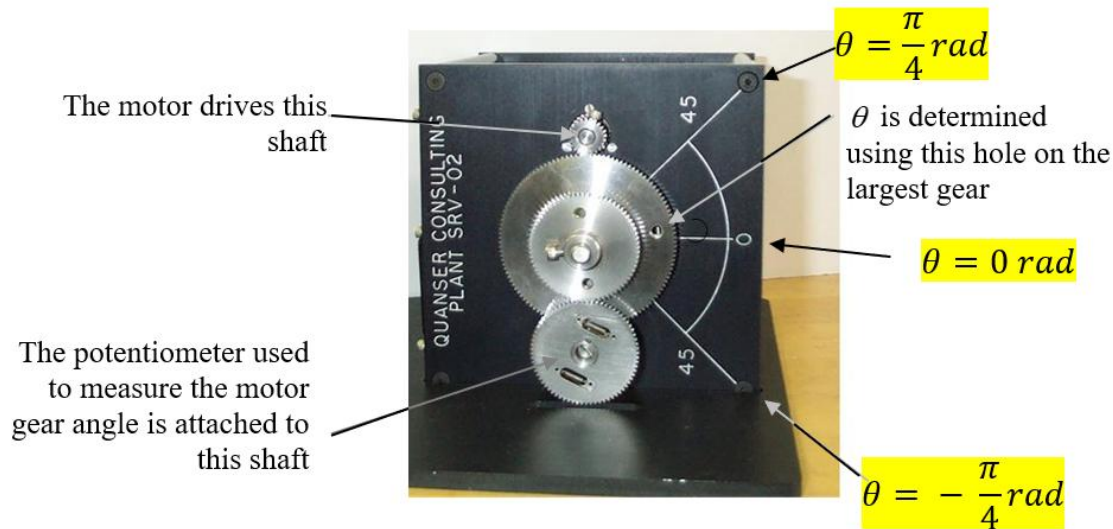
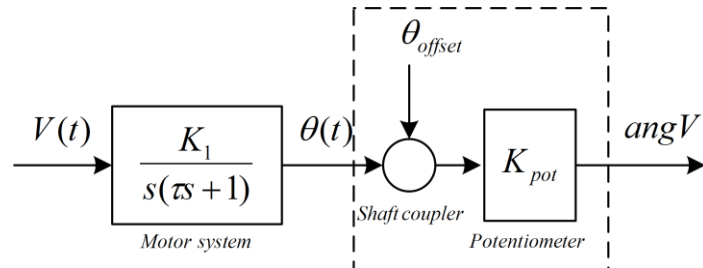

FIGURE 8: The motor system plant for Lab 1
FIGURE 9: Nonlinearity introduced by servo-angle potentiometer
- (b) Check out your experimental station. Figure 8 shows a detail of the motor system plant and how to correctly measure the gear angle θ . Use the sample code provided and exercise the system to cause rotation in both cw and ccw directions. Use the Serial Monitor and CoolTerm app to display the data being sent to the serial port. Save the CoolTerm data to a file. Import the data into MS Excel and plot it. This will prepare you for items (c) and onwards as you progress through the lab activities. Observe the signals being read from the two system sensors. Are the signals “clean” or impacted by electrical noise? How can you apply filtering to the signals if required? Considering these aspects early on will be a great benefit to your project.
- (c) The motor gear angle is measured using a potentiometer. It is necessary to convert the potentiometer reading to the corresponding gear angle in **radians**. This relationship is nonlinear due to an offset, as shown in Figure 9. You should invert this nonlinearity in software by performing the sensor scaling so that the overall system is linear. To implement the gear angle scaling, use readings relative to the three angles highlighted in yellow in Figure 8. Then, write the necessary code in the Arduino application to compute the gear angle in radians. Expected format for the gear angle sensor scaling is an equation of the type: